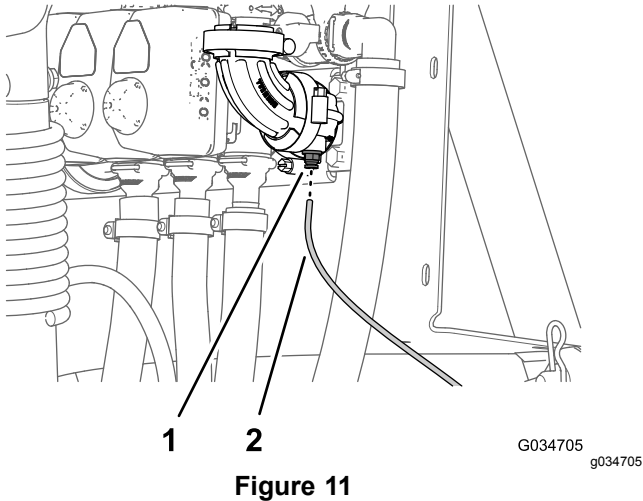

Figure 11
1. Press in the collar for the tube coupler at the 90° elbow at the right boom-section valve (Figure 11).
2. Pull the pressure-sense tube for the dash pressure gauge out of the tube coupler (Figure 11).